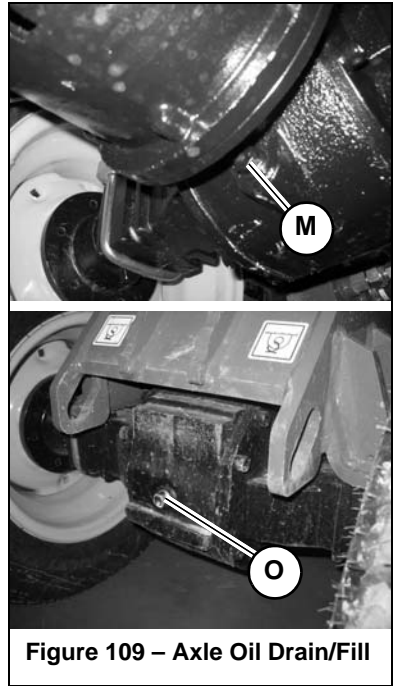

Figure 109 – Axle Oil Drain/Fill
2. Thoroughly clean around axle drain plugs (*M*, Fig. 109) and remove the plugs.